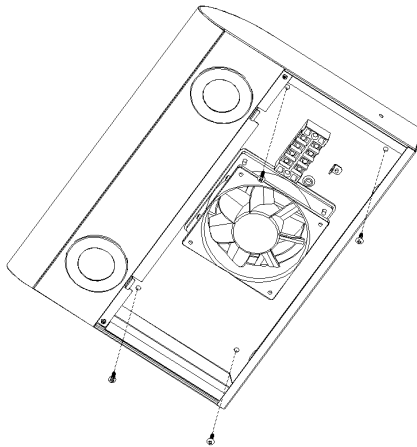

Figure 2
3. Use four screws to mount the range hood (see figure 2).